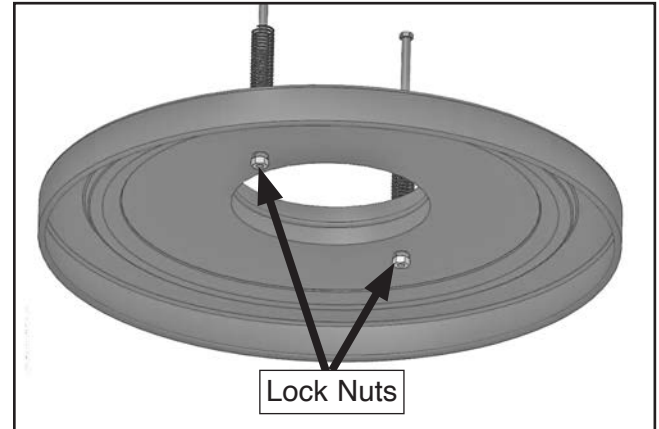

Figure 34. Cyclone funnel adapter hex bolts secured with lock nuts.
35. Remove collection drum from under lid, and secure hex bolts from **Step 30** using (2) $\frac{3}{8}$ "-16 lock nuts (see **Figure 34**).